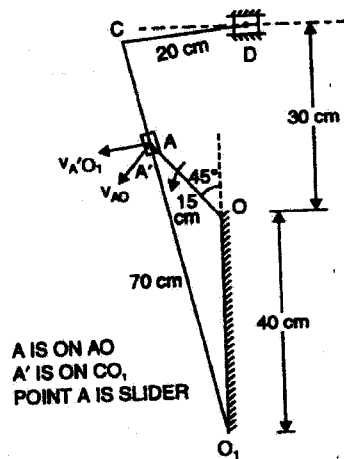

Fig.01
- 3 A mechanism of a crank and slotted quick return motion is shown in figure. If the crank rotates counter - clockwise at 120 r.p.m., determine (for the configuration shown) the velocity and acceleration of the ram. Also determine the angular acceleration of the slotted lever. Crank $OA = 15$ cm, slotted arm $O_1C = 70$ cm and link $CD = 20$ cm. (Fig.01) 15